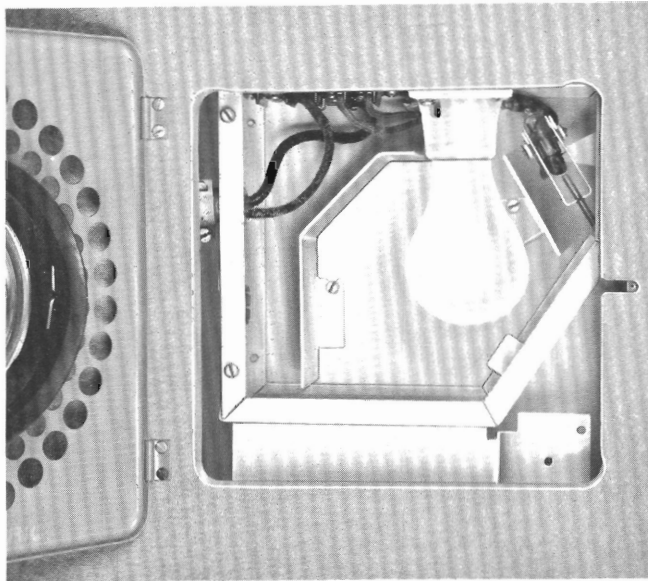

Fig. 6 — 4A Light Fixture
6.06 The 4A light fixture is used in the 9-, 10-, and 11-type booths and serves as a junction point for supplying power to a blower, directory light, telephone sign, and adjacent booths (Fig. 6).